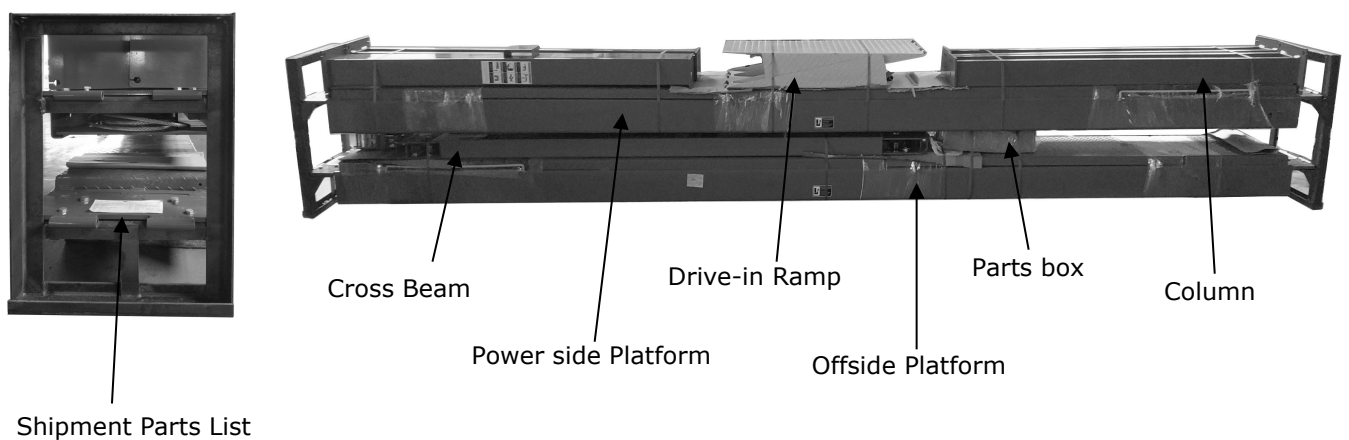

Fig. 7
3. Open the outer packing carefully, check all the parts according to the parts list (See Fig. 7).